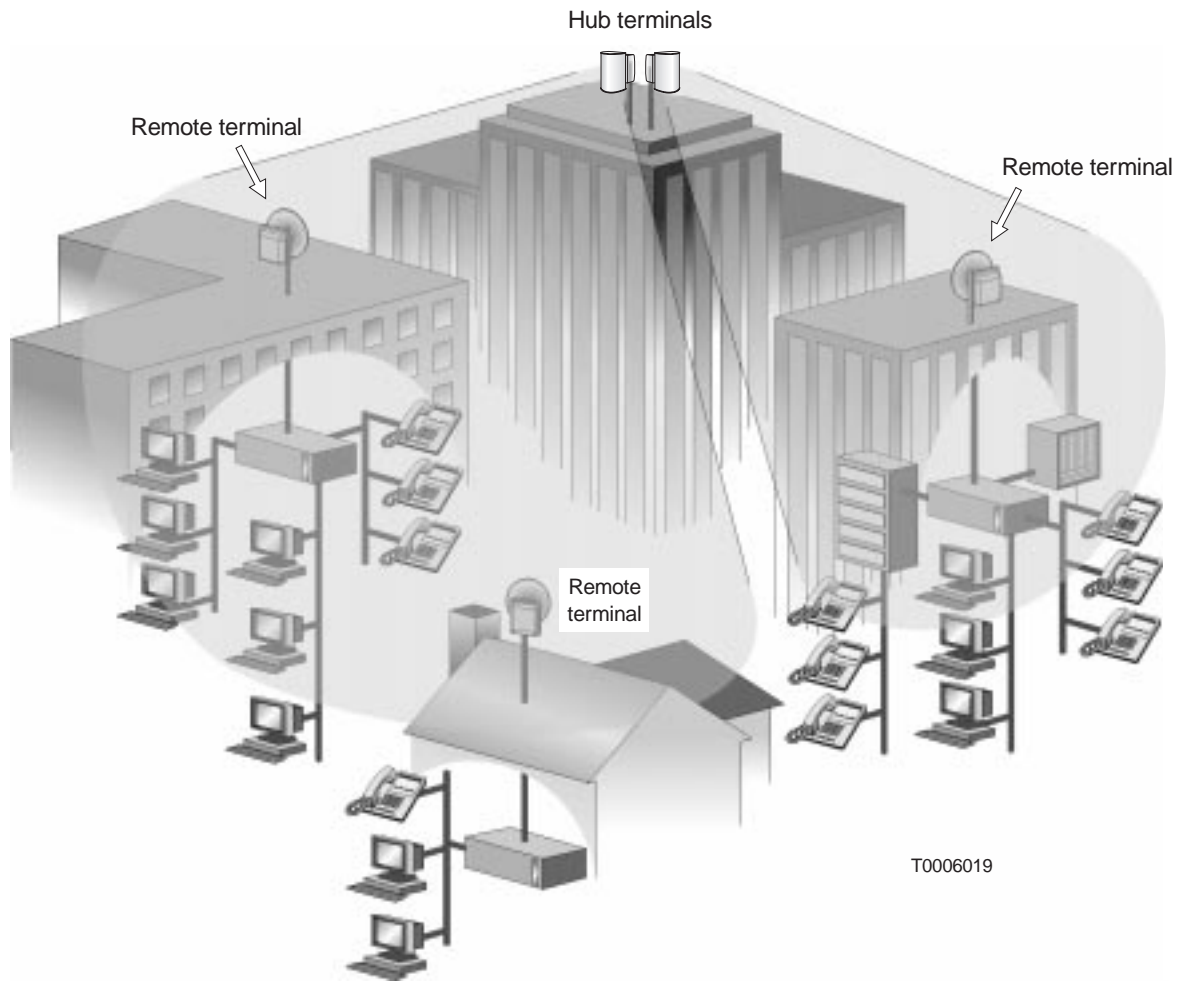

Figure 4-1 Hub ODUs communicating with RT ODUs
For conceptual reference figure 4-1 illustrates how hub terminal (HT) ODUs communicate with remote terminals (RT) ODUs. Typically, multiple HTs are used to provide multiple sectors and achieve coverage up to 360°.